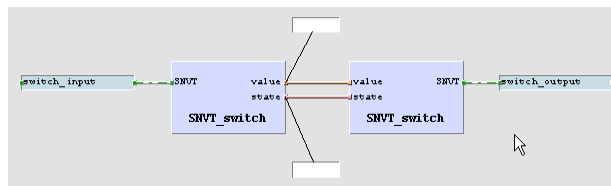

Figure 63: Online Test fields
13. Place the fields above and below the drawing as shown in Figure 63, then press the **Save** button to save your changes.